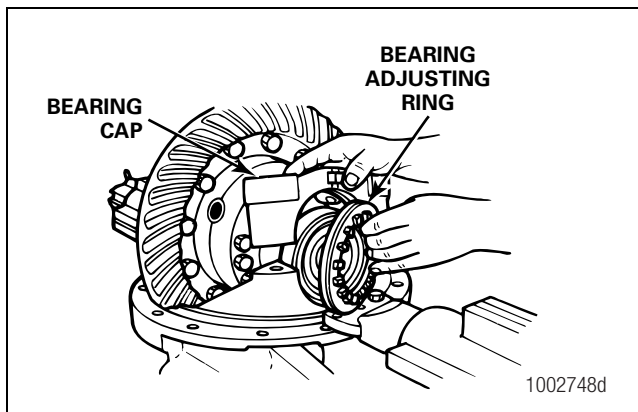

Figure 3.45
6. Remove the bearing caps, adjusting rings and bearing cups from the differential carrier. Figure 3.45.